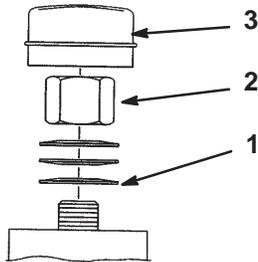

Figure 53
2. Remove the dust cap from the castor and tighten the locknut (Fig. 53).
3. Tighten until the spring washers are flat and then back off 1/4 turn to properly set the preload on the bearings (Fig. 53).
Important Make sure that the spring washers are installed correctly as shown in Figure 53.